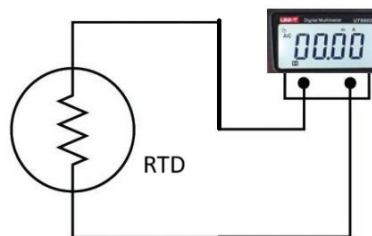

Figure 3
1. RTD is placed in a bath, then connect the RTD type PT 100 to the measurement circuit shown in Figure 3.